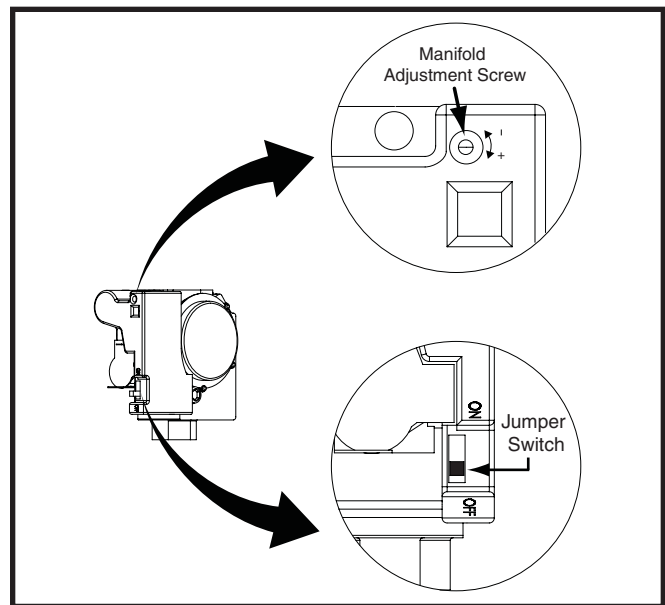

Figure 25. Modulating Gas Valve
- b.) Using a small screw driver, turn the adjusting screw (Figure 25) on the regulator to adjust the full input setting.